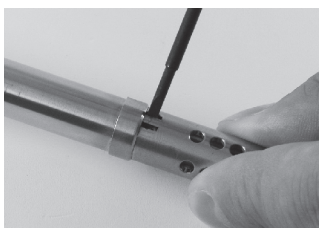

Fig. 32 Loosen the lock of the filter cap
- Loosen the lock of the filter cap with an appropriate tool (see Fig. 32 *Loosen the lock of the filter cap*).